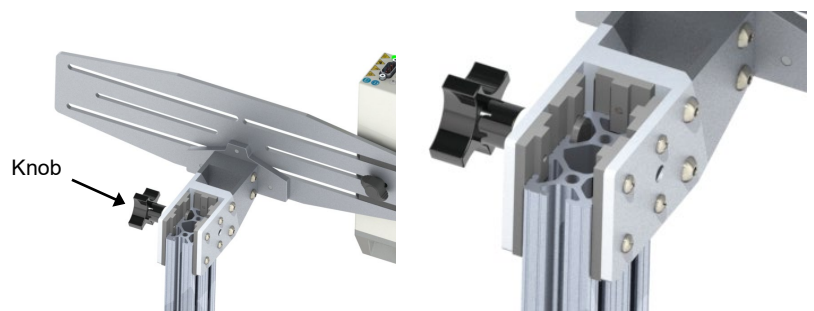

Figure 4. Slide Carriage into Stand
5. Slide the carriage onto the stand's upright, being sure to align bearing pads and t-nut into slot (Figure 4).